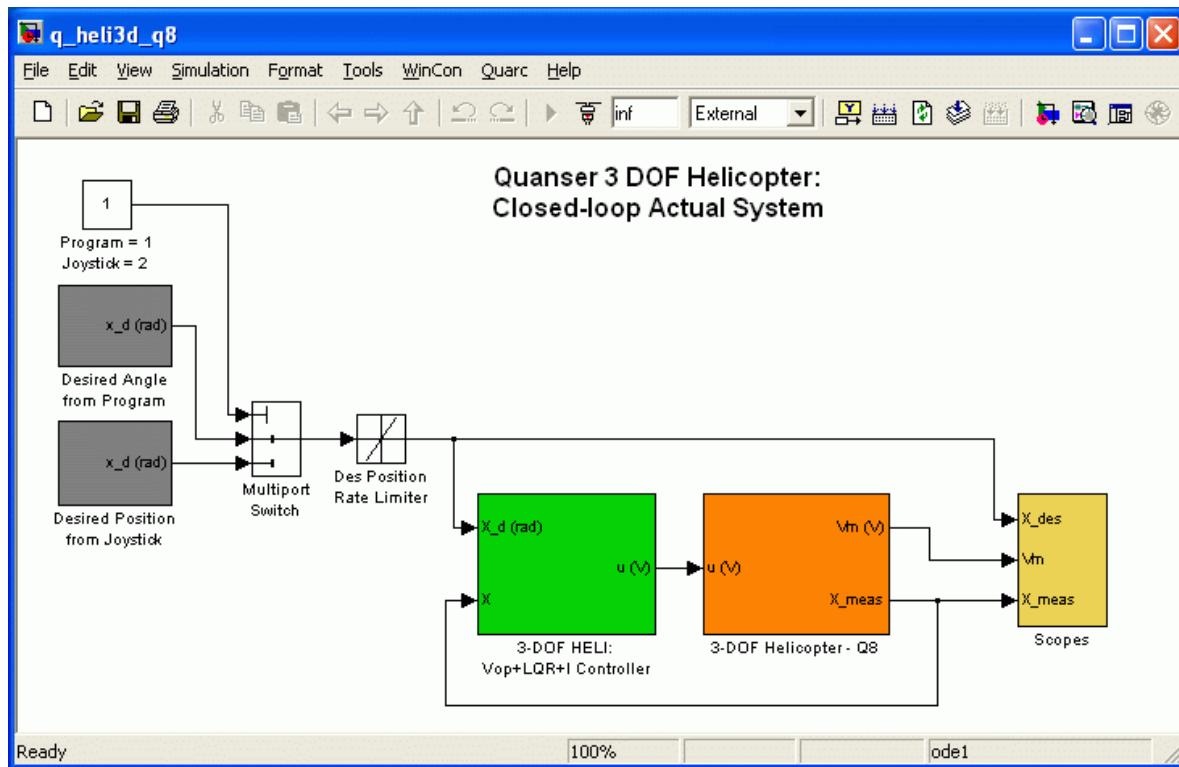

Figure 28: Simulink model *q\_heli3d\_q8* implements the LQR controller on actual 3-DOF Helicopter system.
1. Open the Simulink model *q\_heli3d\_zz.mdl* shown in Figure 28 that implements a sample LQR controller. The *zz* suffix denotes the type of data-acquisition board that is installed in your PC, such as *q4* or *q8*. The model runs your actual 3-DOF Helicopter plant by directly interfacing with your hardware through the WinCon blocks, as discussed in Reference [2].
10. In the *q\_heli3d\_zz* Simulink diagram, make sure the *Program/Joystick* block shown in Figure 28 is set to 1 in order to generate the desired angle from Simulink.
17. Alternatively, the desired angle can be generated using a joystick - either the analog or USB described in Section 5.5. To use the joystick, set the Program/Joystick switch shown in Figure 28 to 2. The rate at which the desired angle increases or decreases given a joystick position can be changed using the K\_JOYSTICK\_X and K\_JOYSTICK\_Y variables that are set in the setup\_lab\_heli\_3d.m script file.
3-DOF Helicopter w/ ADS plant by directly interfacing with your hardware through the WinCon blocks, as discussed in Reference [2]. The *3-DOF Helicopter System* subsystem is basically the Simulink model described in Figure 28. The helicopter is not engaged until the Active Disturbance is calibrated.